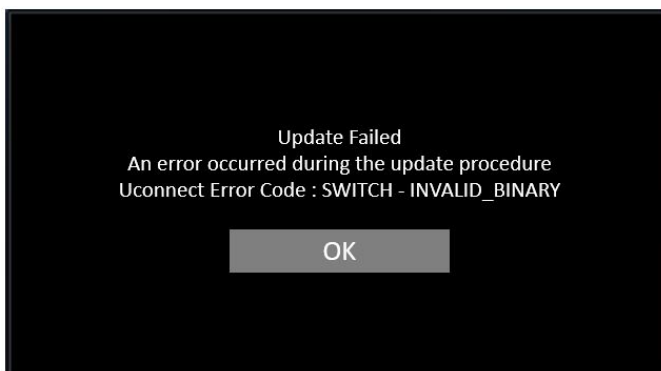

Fig. 6
18. Sometimes the radio will display an error pop up “ SWITCH-INVALID_BINARY“ after successful radio update. Please ignore this error message and press “OK” to continue Fig. 6.